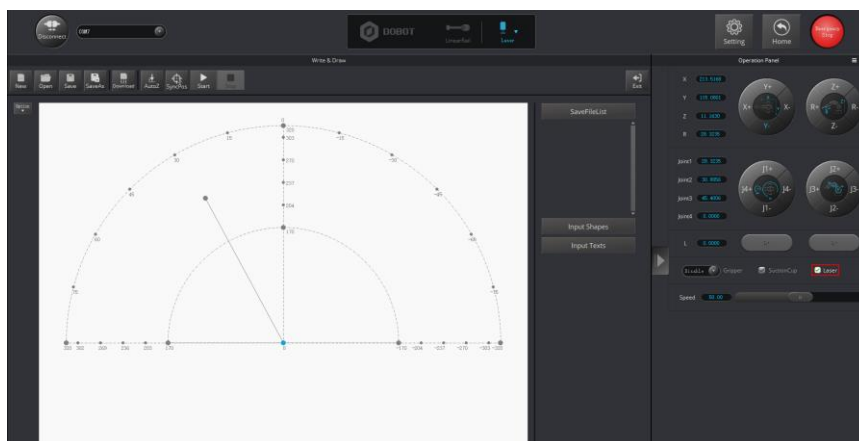

Figure 5.79 Turn on the laser
Step 2 Click  to display the **Operation Panel**, and then select **Laser** to turn on the laser, as shown in Figure 5.79. In this case, the laser gives out a laser beam.